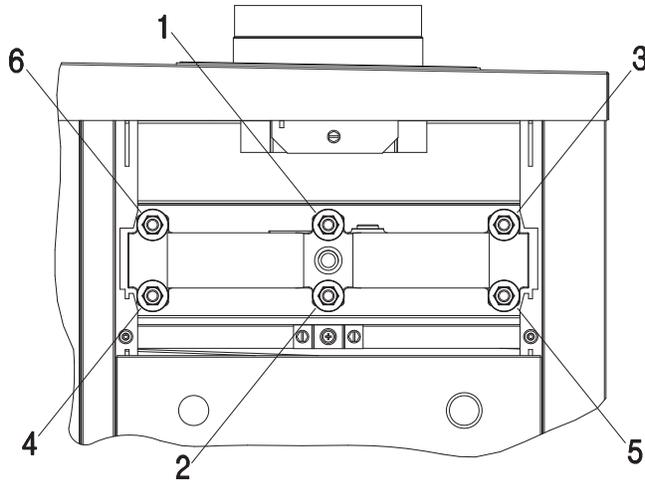

Figure 9. Torque Sequence
13. Slowly tighten the flange nuts, starting from the center nut (number 1) in **Figure 9** and working sequentially around the header as indicated. Torque all nuts to 25 ft/lb. DO NOT OVER-TIGHTEN.